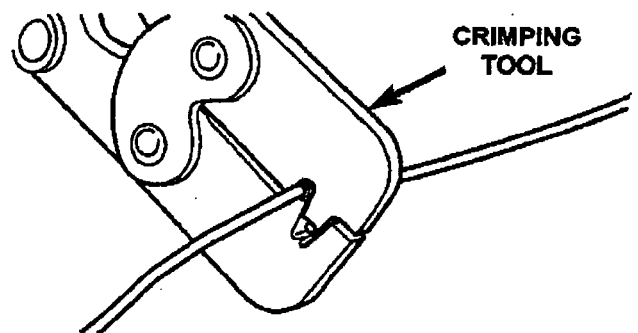

Figure 10
- f. Using crimp tool (Mopar P/N 05019912AA), crimp the brass splice band and wires together (Figure 10).